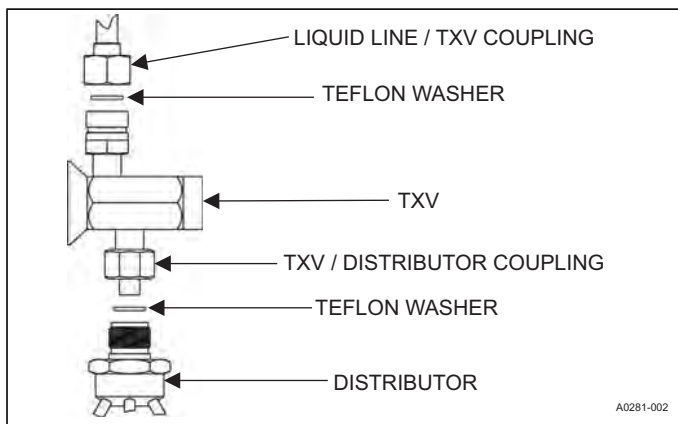

FIGURE 5: TXV Installation
5. Install the thermal expansion valve to the distributor assembly with supplied fittings. Ensure Teflon washer is seated in distributor. Hand tighten and turn an additional 1/4 turn to seal. Do not over-tighten fittings. See Figure 5.